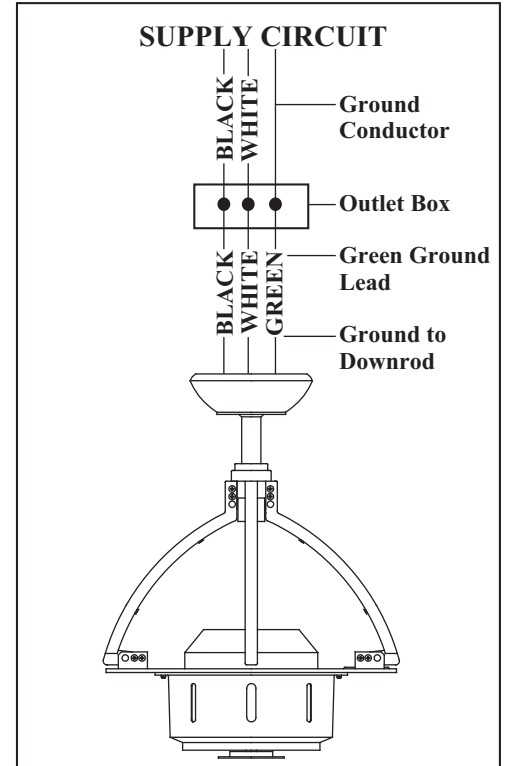

Figure 11
1. Connect the fan supply (black) wire to the black household supply wire as shown in Figure 11.